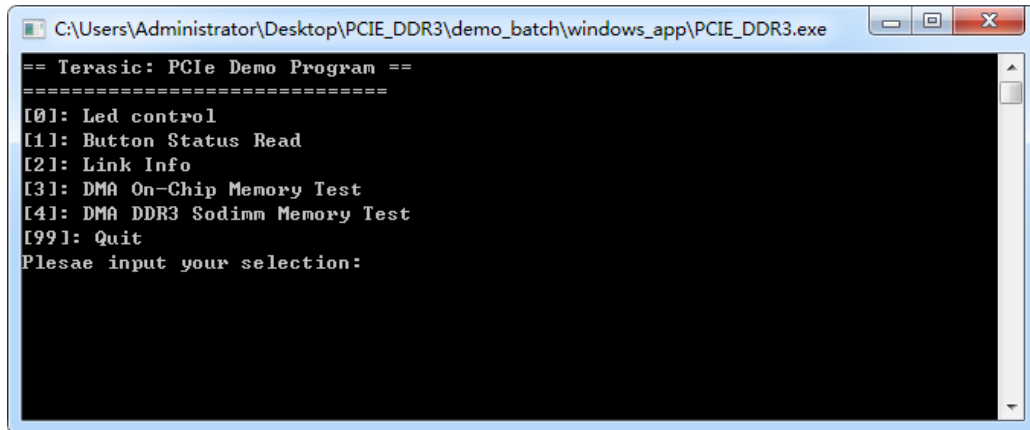

Figure 7-17 Screenshot of Program Menu
7. Goto windows_app folder, execute PCIE_DDR3.exe. A menu will appear as shown in **Figure 7-17**.